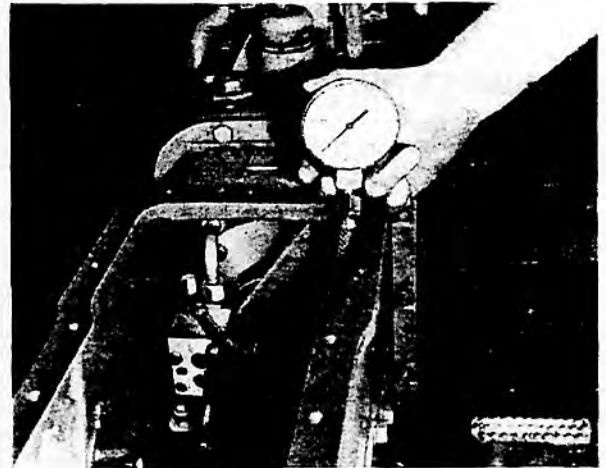

FIGURE 43. CHECKING PUMP RELIEF VALVE PRESSURE
1. Carry out operation J-27, items 1 to 3.
3. Screw pressure hose into adaptor. Figure 43 shows complete assembly.